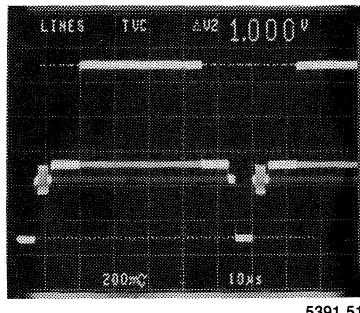

Figure 4-3.
3. ADJUST the variable resistor R550 for 5-division display (1V) as shown Figure 4-3.